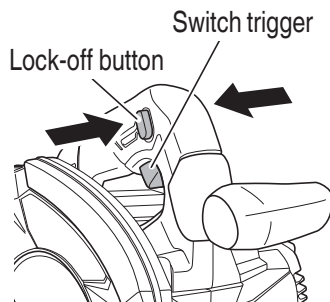

Fig. 24
3. Operation of switch (Fig. 24)
Remaining battery power can be verified by pulling on the switch to make the remaining battery indicator lamp light up red. **(Fig. 24 on page 51)**